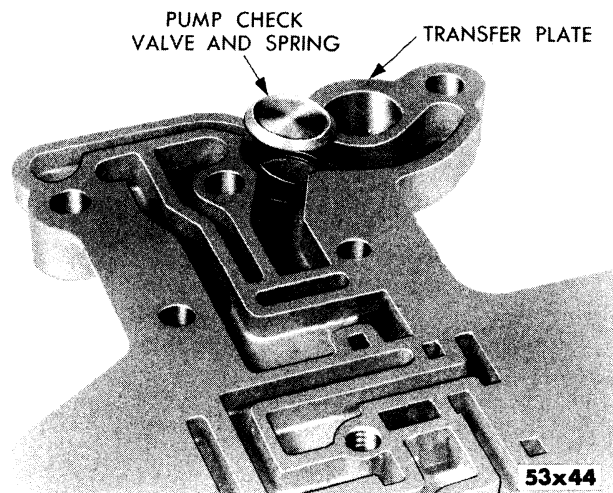

Fig. 127—Front Pump Check Valve and Spring
- (17) Make careful inspection of valve body plate for burrs and make definitely sure the five small holes (metering) are open.
- (18) Visually inspect pump check valve springs in transfer plate. (Fig. 127.)